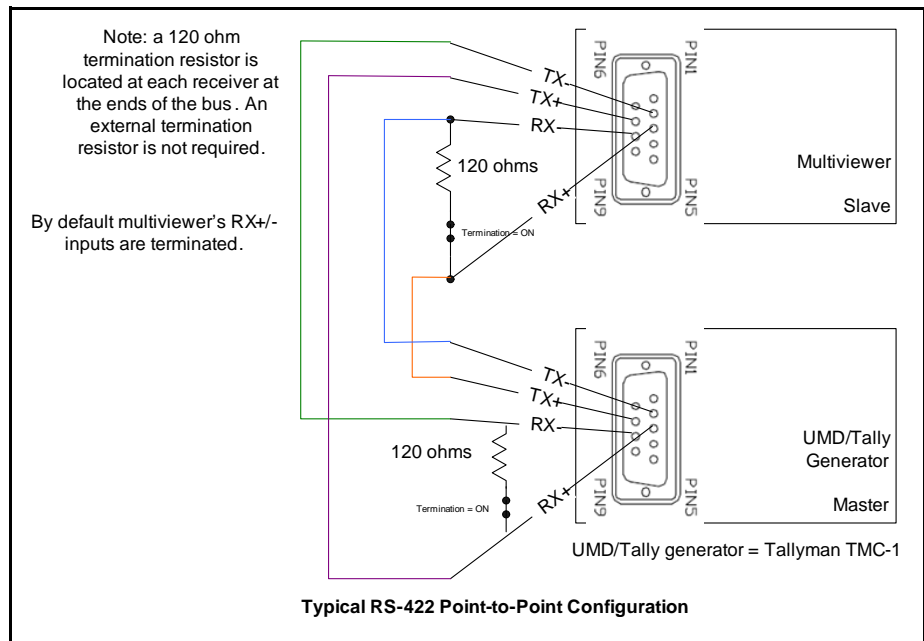

Figure C-5 Typical RS-422 Point-to-Point Configuration
- RS-422 cable connection between a multiviewer (COM 1–2) and a UMD/tally device (see Figure C-5 on page 89)